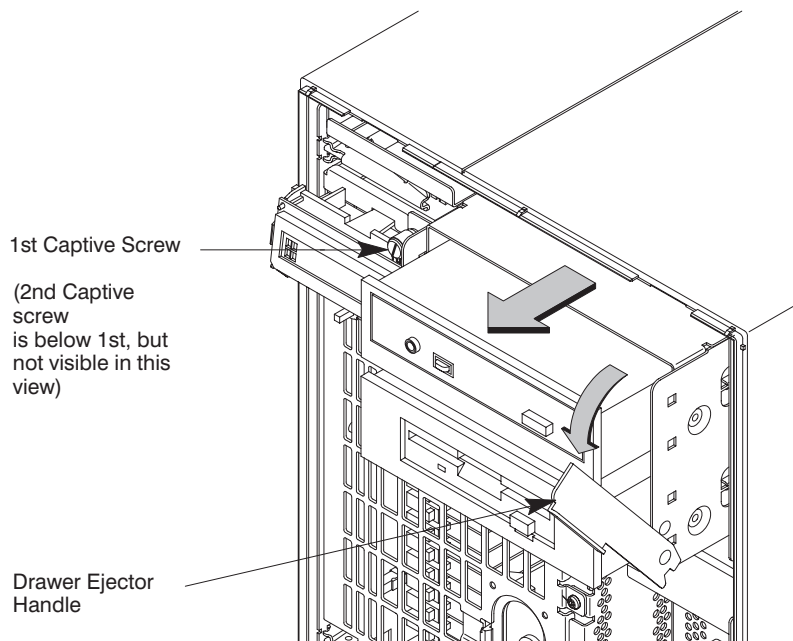

Figure 5-48. Removing Storage Drawer from System Unit
1. Unscrew the two captive screws on the left side of the Storage Assembly and pull down the drawer latch on the right side of the Storage Assembly, as shown in Figure 5-48.